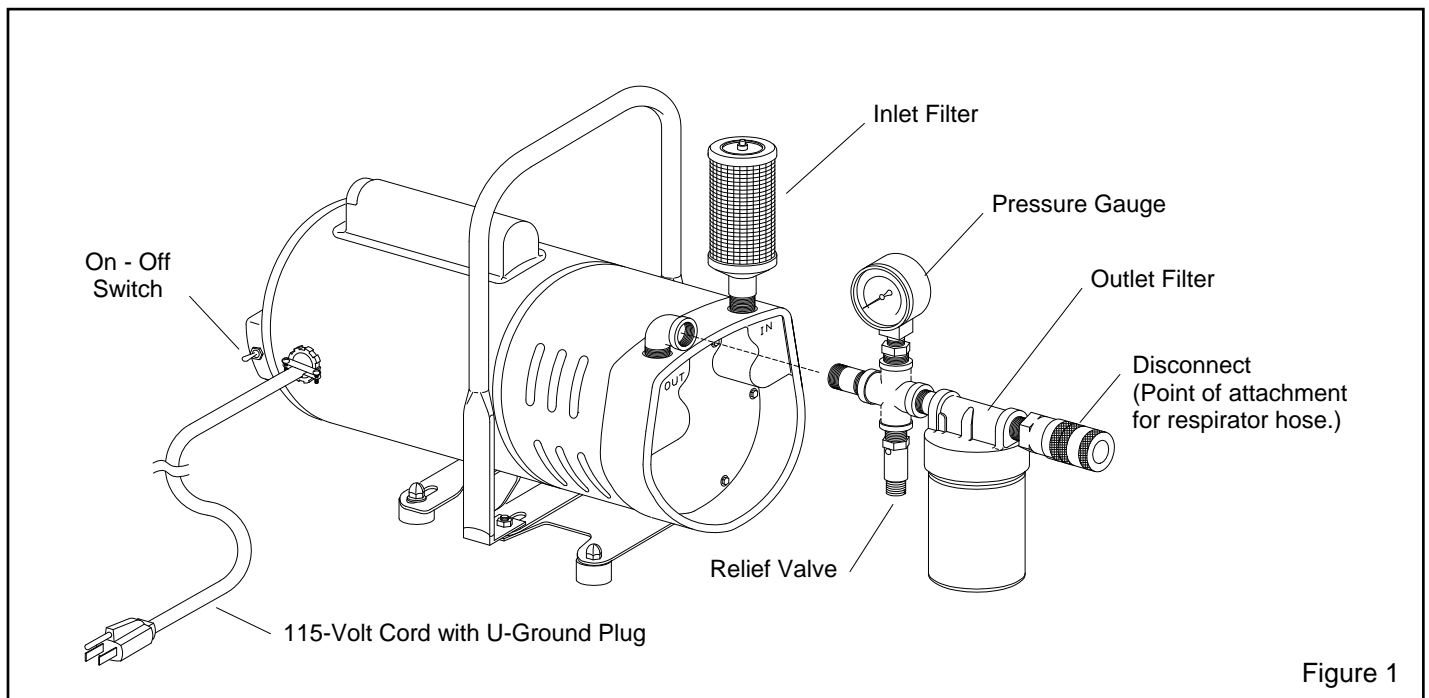

Figure 1
1.3.1 The CAP-1 Ambient Air Pump assembly is shown in Figure 1. It includes a 115-volt, 3/4 hp drive motor with supply cord, an oil-less rotary vane pump unit, inlet filter/muffler, and outlet end plumbing consisting of a relief valve, pressure gauge, air filter, and disconnect. The (hose) disconnect is the attachment point for the respirator hose.
2.1.1 Connect the outlet plumbing assembly to the elbow on the outlet port, as shown in Figure 1.